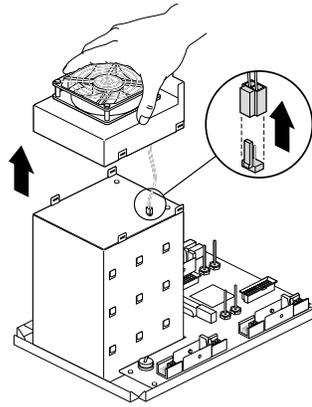

Figure 7-28 Removing the Fan From the Back of the Drive Bay
5. Gently pull up on the cable connector, as shown in Figure 7-28.